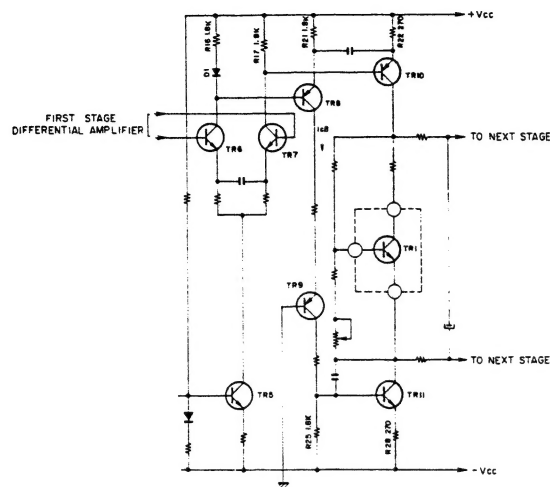

Fig. 12 Pre Driver Circuit
3) Pre Driver Circuit (Refer to Fig. 12)